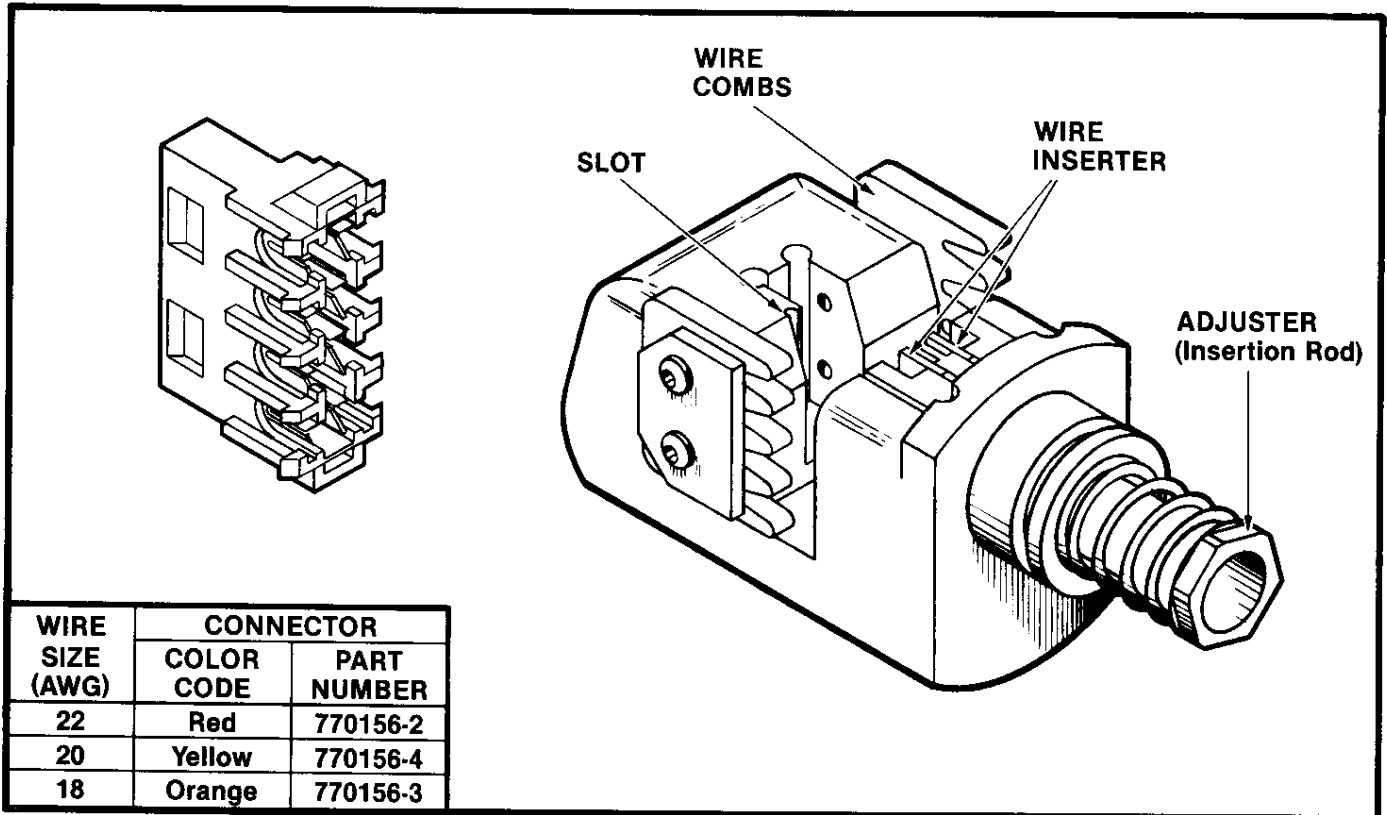

Fig. 1
This instruction sheet (IS) covers operation and maintenance of AMP Terminating Head 231894-1. The head is designed to terminate wires in the 4-Position Insulation Displacement Type Commercial MATE-N-LOK Connector having contacts on .200-in. centers. See Figure 1.
four positions in one cycle. Features of the head (see Figure 1) and their functions are as follows: